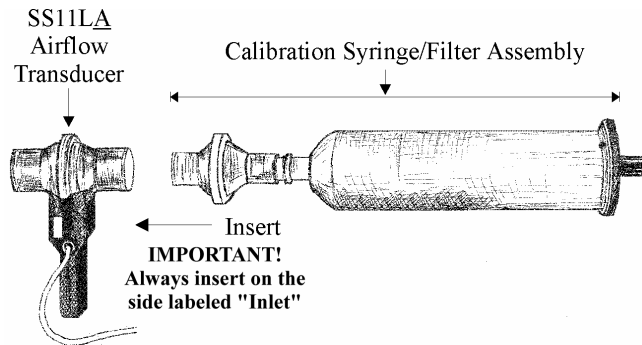

Fig. 13.5
6. **Insert** the Calibration Syringe/Filter Assembly into the airflow transducer (Fig. 13.5).
**If** using **SS11LA** transducer with removable, cleanable head, always insert syringe assembly on the transducer side labeled “**Inlet**” so that the transducer cable exits on the left, as shown in Fig. 13.5.